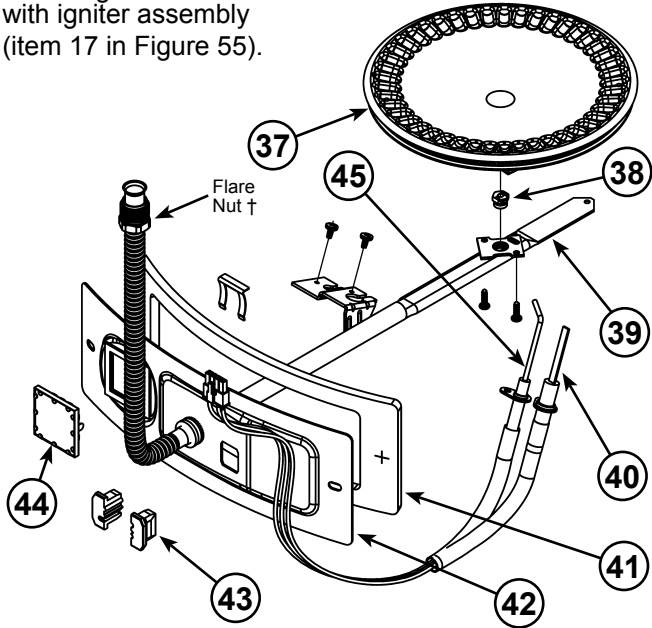

Figure 57
- 17 Manifold Door Assembly (behind outer door) (see Figure 3 (NG) or Figure 4 (LP)) (see also **Figure 57**)
- 37 Aluminum Burner (see Figure 3) (see also **Figure 57**)
- 38 Gas Orifice (see Figure 3) (see also **Figure 57**)
- 39 Gas Manifold (see Figure 3) (see also **Figure 57**)
- 40 Hot-Surface Igniter (see Figure 3) (see also **Figure 57**)
- 41 Manifold Door Gasket (see Figure 3) (see also **Figure 57**)
- 42 Manifold Door (see Figure 3) (see also **Figure 57**)
- 43 Two Piece Grommet With Clip (see Figure 3) (see also **Figure 57**)
- 44 Viewport (see Figure 3) (see also **Figure 57**)
- 45 Flame Sensor Rod (see Figure 3) (see also **Figure 57**)